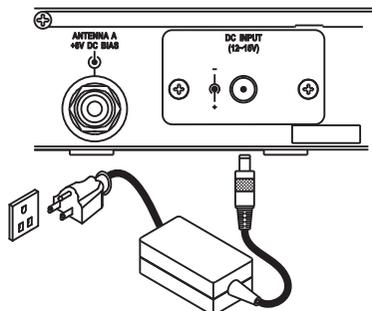

Fig.4
- (B) Connect the power supply to the DC input jack 15 and plug the other end into an AC power source, Fig. 4.